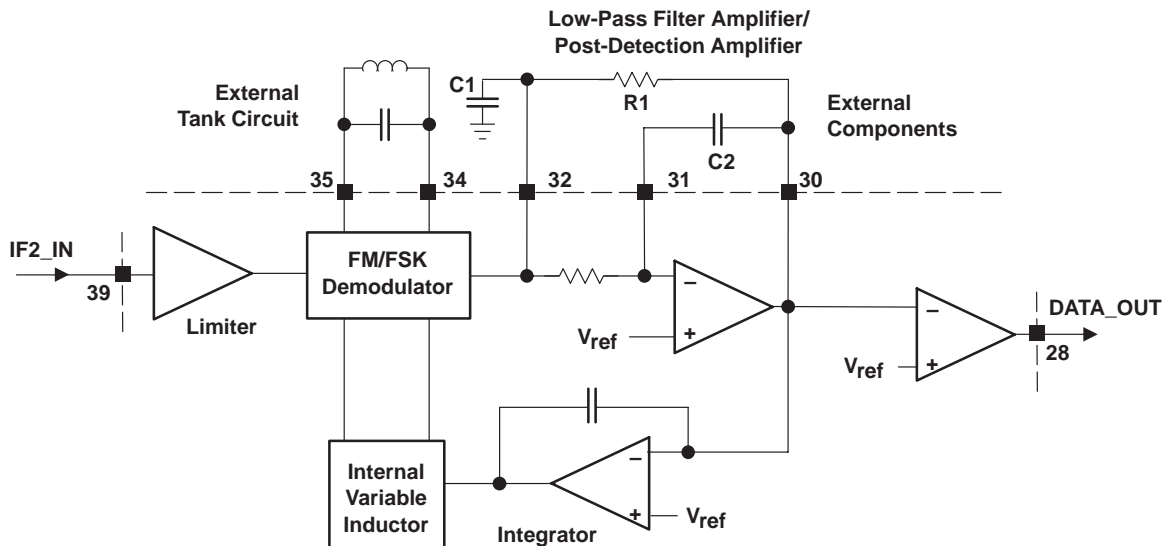

Figure 13. AFC Loop to Control the Data Slicer Decision Threshold
The demodulator is intended for analog (FM) and digital (FSK) frequency demodulation. It consists of a quadrature demodulator with an external LC tank circuit. A variable inductor, internal to the TRF6900, operates in parallel with the external tank circuit (see Figure 13), and is used to adjust the external tank circuit's resonant frequency. If the tolerances of the external demodulator tank circuit components can provide a maximum frequency error of less than 5%, then no additional adjustments are required. As long as the device is in the *learning mode*, the internal reactance automatically fine-adjusts the resonant frequency of the external LC tank circuit. Depending on the supply voltage, the tank circuit tuning range is approximately four times the discriminator 3-dB bandwidth.
The data slicer is fundamentally a comparator. The data slicer provides binary logic level signals, derived from the demodulated and low pass-filtered IF signal, that are able to drive external CMOS compatible inputs. The noninverting input is directly connected to the internal reference voltage, Vref, and the inverting input is driven by the output of the low-pass filter amplifier/post-detection amplifier. The decision threshold of the data slicer is determined by the internal reference voltage, Vref. The automatic frequency control (AFC) loop scheme for the TRF6900 is shown in Figure 13.